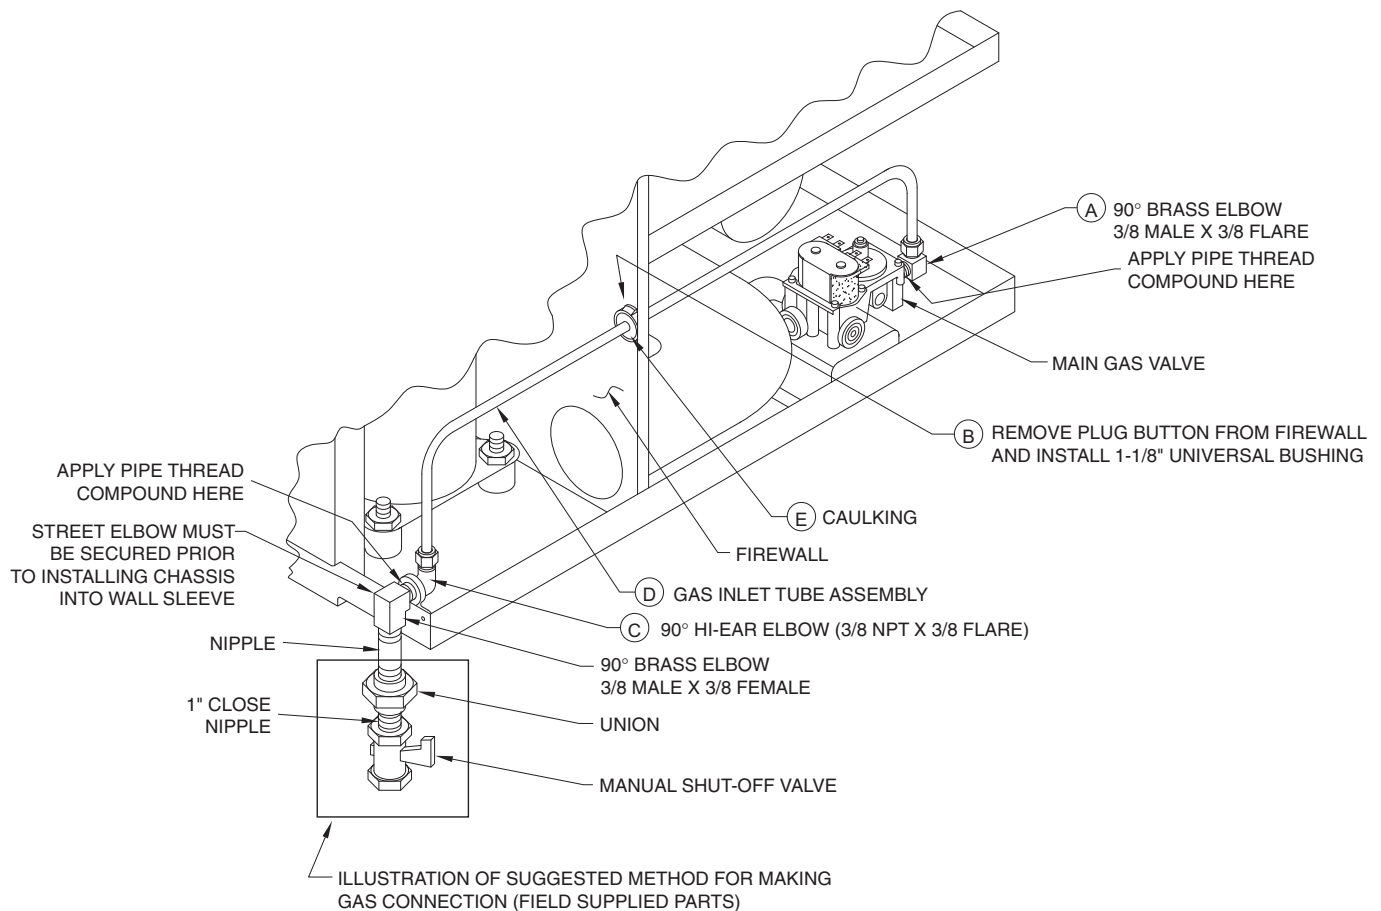

Figure 14
2. Remove brass street elbow from valve and replace it with the 3/8" NPT x 3/8" flare elbow provided. Be sure to apply a thread compound resistant to the action of liquefied petroleum (LP) gas and Natural gas to the threads. NOTE: Flared portion of elbow must be pointing up. Do not discard the elbow that was removed. It will be used later. (See A, **Figure 14**.)
3. Remove the 1-1/8" plug from the firewall and replace it with the 1-1/8" universal bushing provided. (See B, **Figure 14**.)
4. Using the two (2) 8-32 x 1/2 self tapping screws provided, secure hi-ear elbow as illustrated. (See C, **Figure 14**.)
5. Insert gas inlet tube assembly. (See D, **Figure 14**) through bushing in firewall. NOTE: The shortest end of the tube connects to main gas valve.
6. Secure tube assembly to elbows as illustrated. (See **Figure 14**.) Do not apply thread compound to flare fittings.
7. Using silicone caulking, seal gas inlet tube assembly where it passes through bushing. (See E, **Figure 14**.)